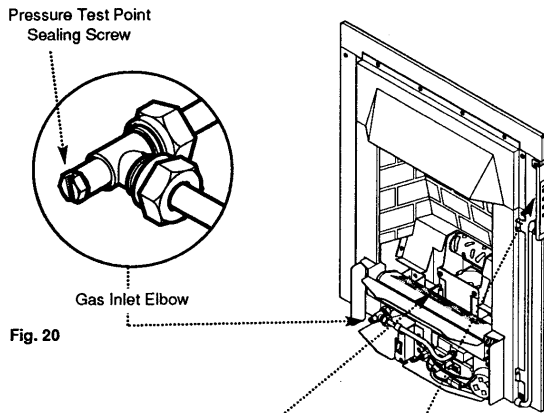

Fig. 20
1. Remove the screw from the pressure test point on the gas inlet elbow and connect a suitable pressure gauge (Fig. 20).